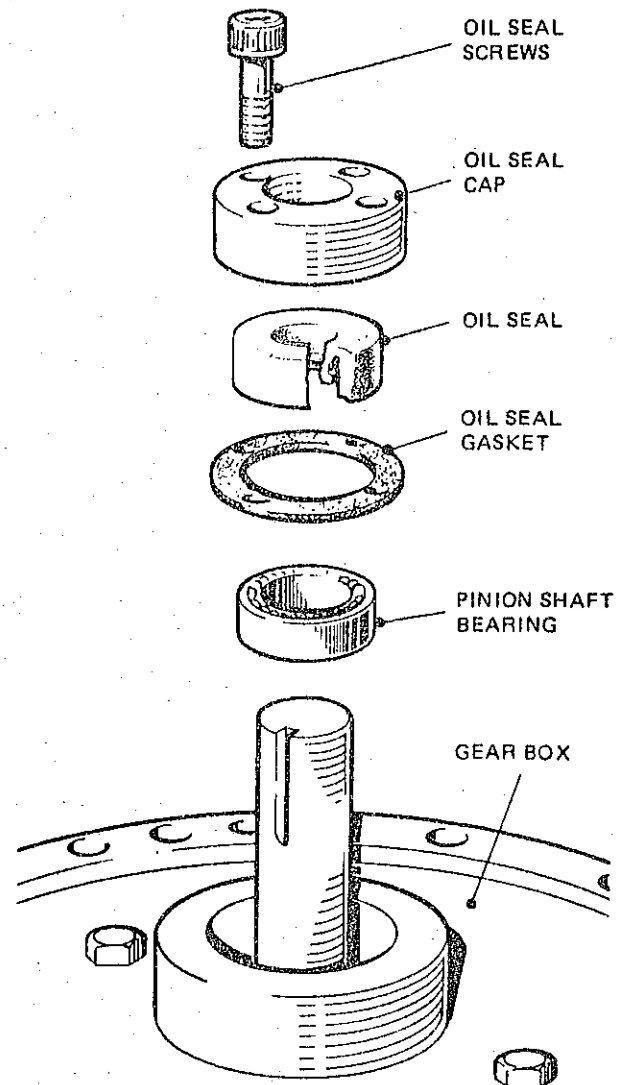

Figure 5. Pinion Shaft Bearing
- (a) On the P-125 gear box, the pinion shaft, pinion shaft bearing, pinion shaft oil seal and pinion shaft oil seal gasket can be replaced. This work can be done while the gear box assembly is assembled to or removed from the machine (Figure 5).